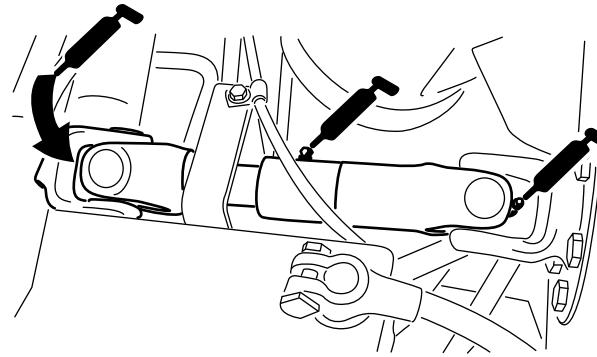

Figure 64
- Pump driveshaft U-joint (3)—Figure 64